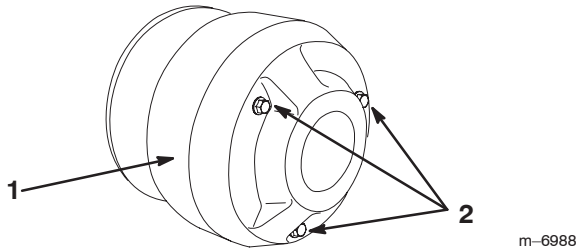

Figure 38
- Remove the 3 bolts securing the cover to the clutch and remove the cover (Fig. 38).